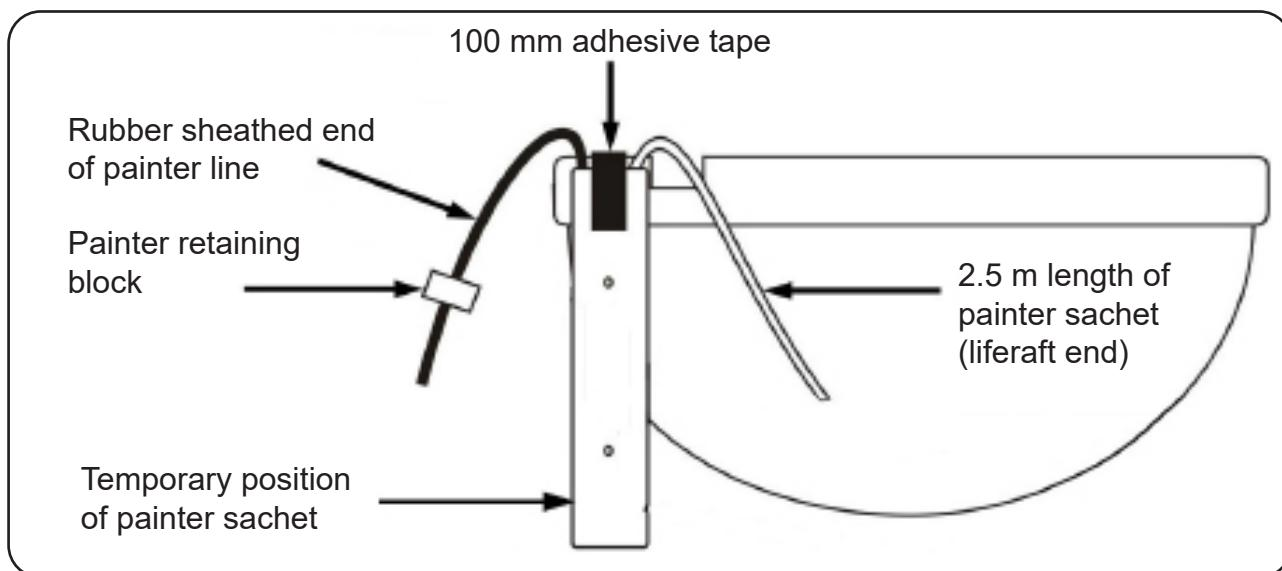

FIGURE 848
- 6.19 Temporarily attach the painter sachet to the rear of the lower half of the container using adhesive tape. Make sure that the open end of the painter sachet is at the edge of the container with the painter line cut-out. Refer to FIGURE 848.